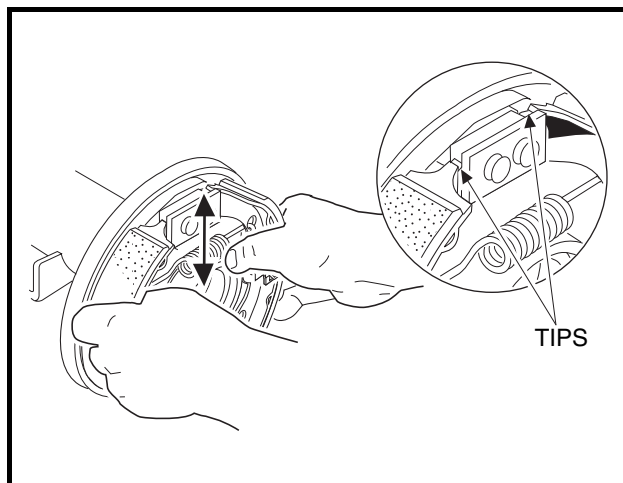

**Figure 6-15 Install Leading Shoe**
4. While maintaining spring attachment on both shoes, position tips of leading shoe in the mounting slots and then push shoe into place. Hold shoe in position and install retaining clip (**Figure 6-15, Page 6-7**).